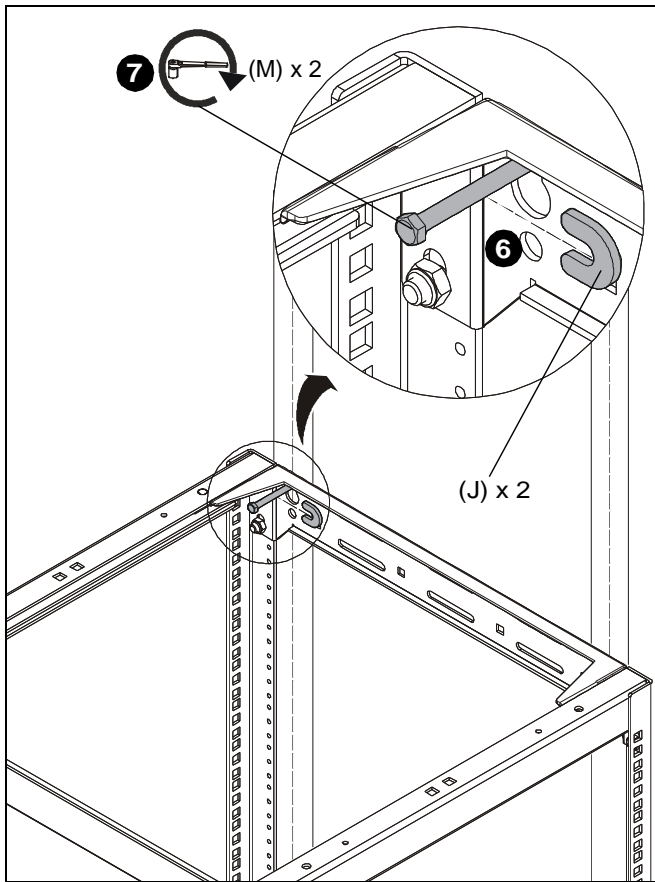

Figure 12
6. Slide two "U" washers (J) onto lag bolts (M). (See Figure 12)
7. Tighten two lag bolts (M) until "U" washers (J) are pulled firmly against the brace. (See Figure 12)